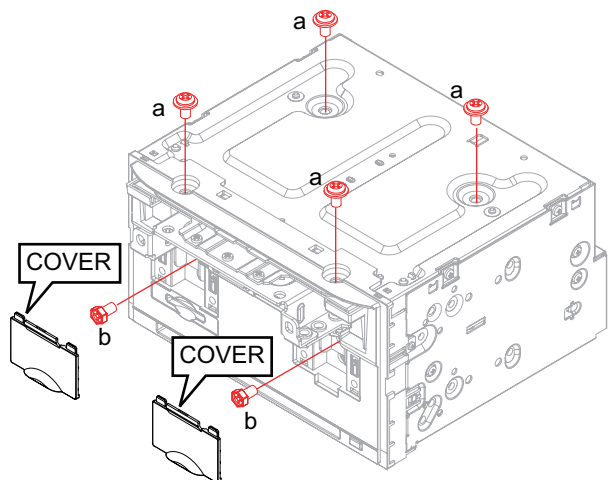

Fig.11
- (2) Remove the COVER. (See Fig.11)
- (3) Remove the 6 screws (a,b). (See Fig.11)